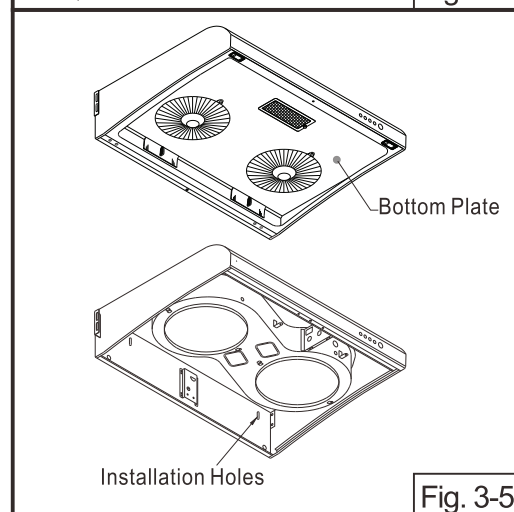

Fig. 3-5
- Remove 2 hangers on both sides. Detach the bottom plate. Install the range hood to sleeve anchors through the holes on the back sides of range hood. Tightly screw the nut of sleeve anchor. (Fig. 3-5)